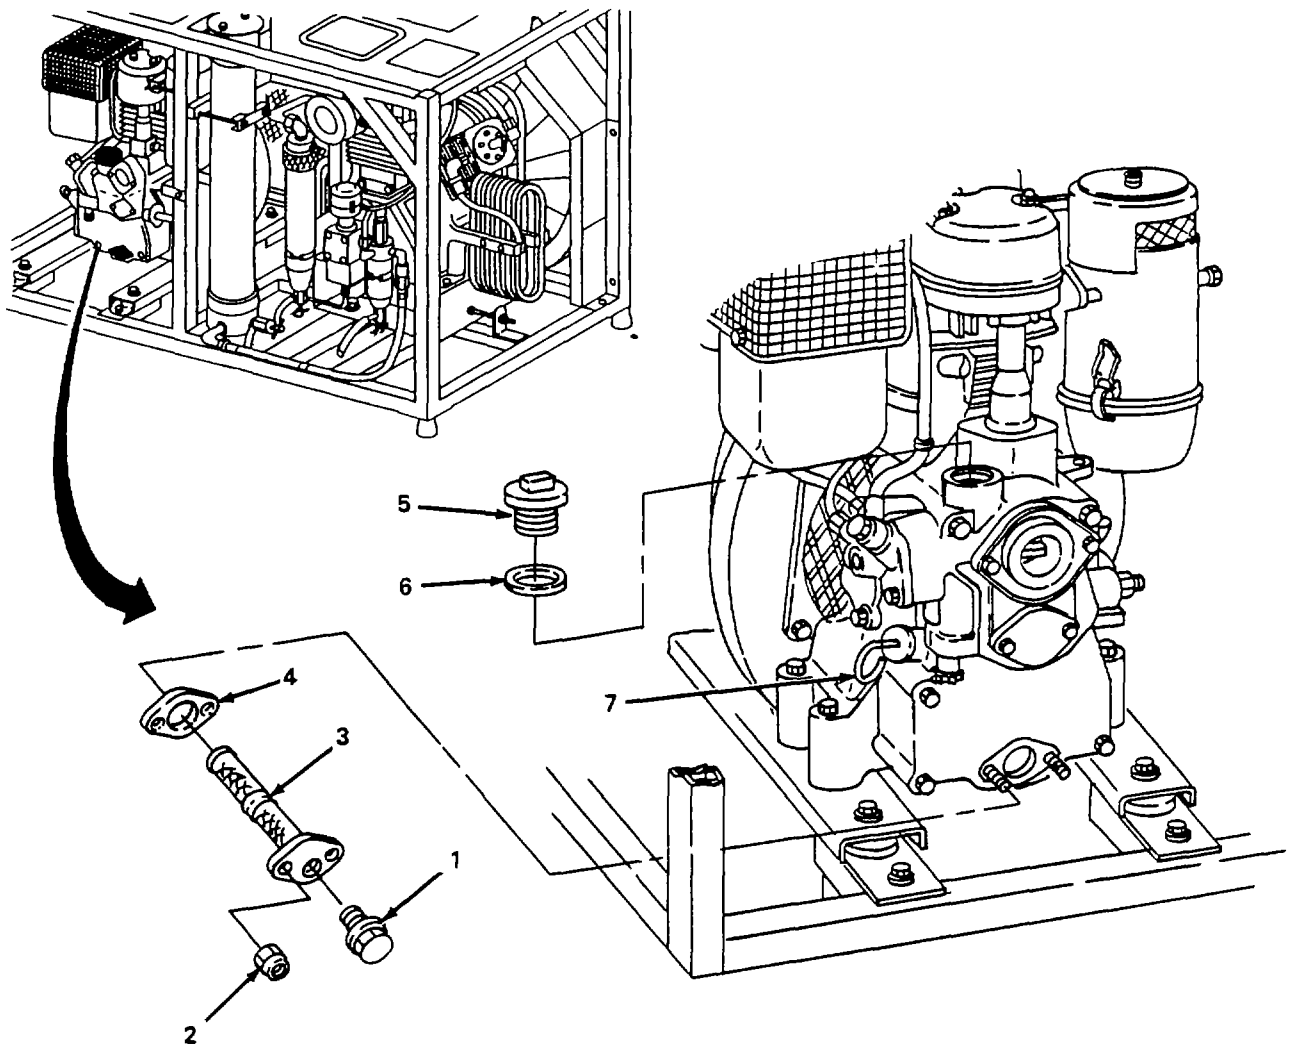

Figure 4-15. Engine Assembly, Service.
**a. Service.** (figure 4-15)
- (1) Remove drain plug (1) and drain engine oil into suitable container.
- (2) Remove two nuts (2), oil screen (3) and gasket (4).
- (3) Clean oil screen (3) with dry cleaning solvent and dry thoroughly.
- (4) Inspect oil screen (3) and replace if screen material is torn or oil screen (3) is otherwise damaged.
- (5) Install new gasket (4) and oil screen (3) and secure with two nuts (2).
- (6) Install drain plug (1).
- (7) Remove filler cap (5) and gasket (6).
- (8) Fill engine with oil until oil level reaches full mark on dipstick (7). Refer to table 3-1 for proper grade viscosity of oil.